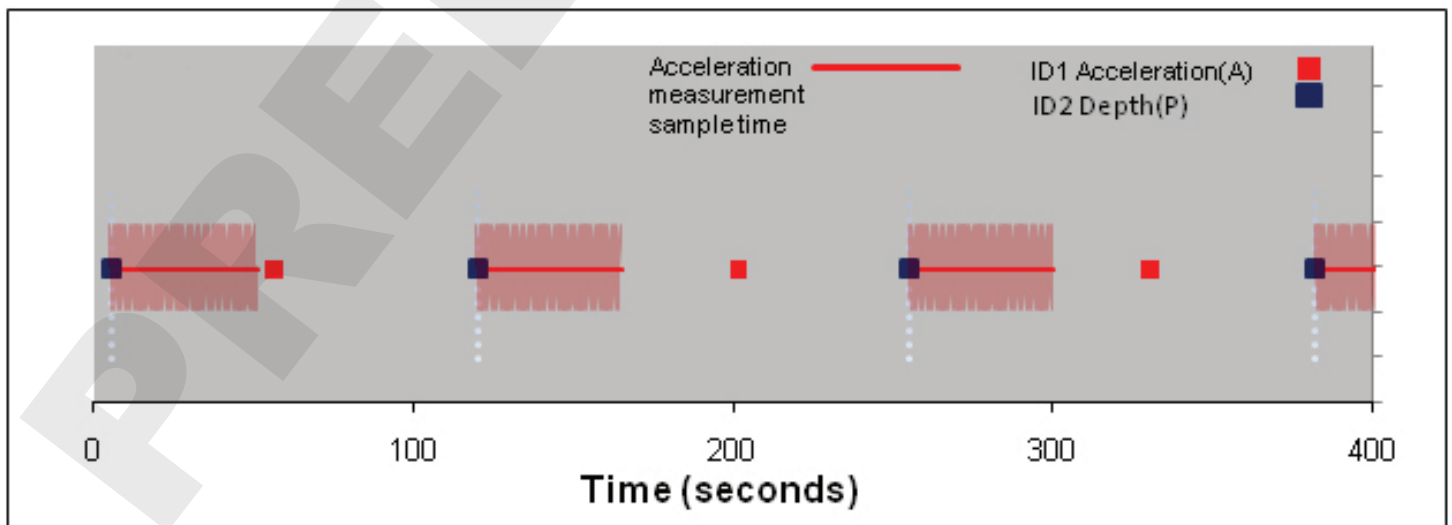

Figure 3: Example of sampling and transmission format for the V13AP. For the V13A, acceleration would be sampled for every delay cycle.
We have provided some programming flexibility in the design of this transmitter owing to the variability in swimming behavior of a wide range of species, benthic to pelagic. The programming parameters are Average Delay (sec) and the size of the acceleration sampling window (T) in seconds. The V13AP coded transmitter functions like all standard VEMCO two-sensor coded transmitters. It has two coded tag IDs one for the depth sensor and one for the accelerometer. The acceleration measurement is sampled over a period T. Figure 3 illustrates the sampling and transmission format. Immediately after the tag transmits an ID and pressure value (blue square), the tag begins the acceleration measurement (red line). After T seconds of measurement, the RMS